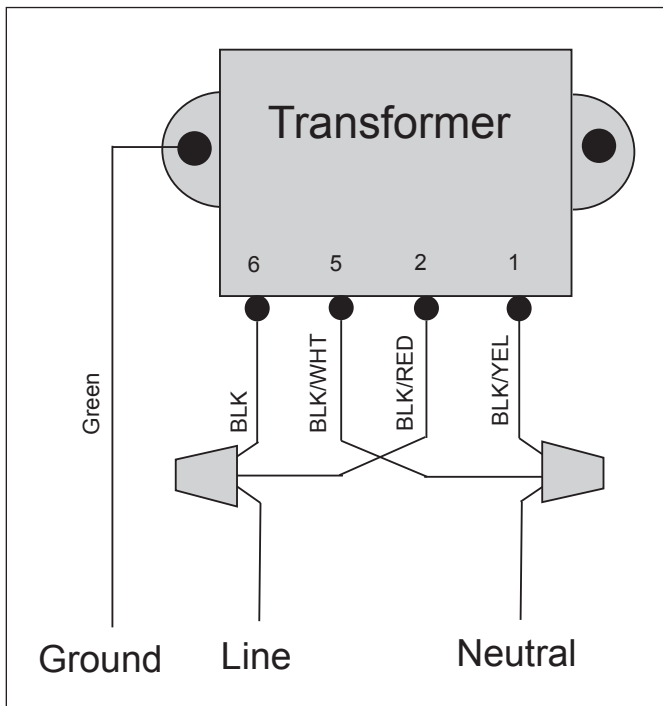

Figure 4. Modified Wiring for 110 Volt Operation
2. Connect the black/red wire with the black wire and connect to the line side of power. See Figure 4.
3. Connect the black/white wire with the black/yellow wire and connect to the neutral side of power. See Figure 4.